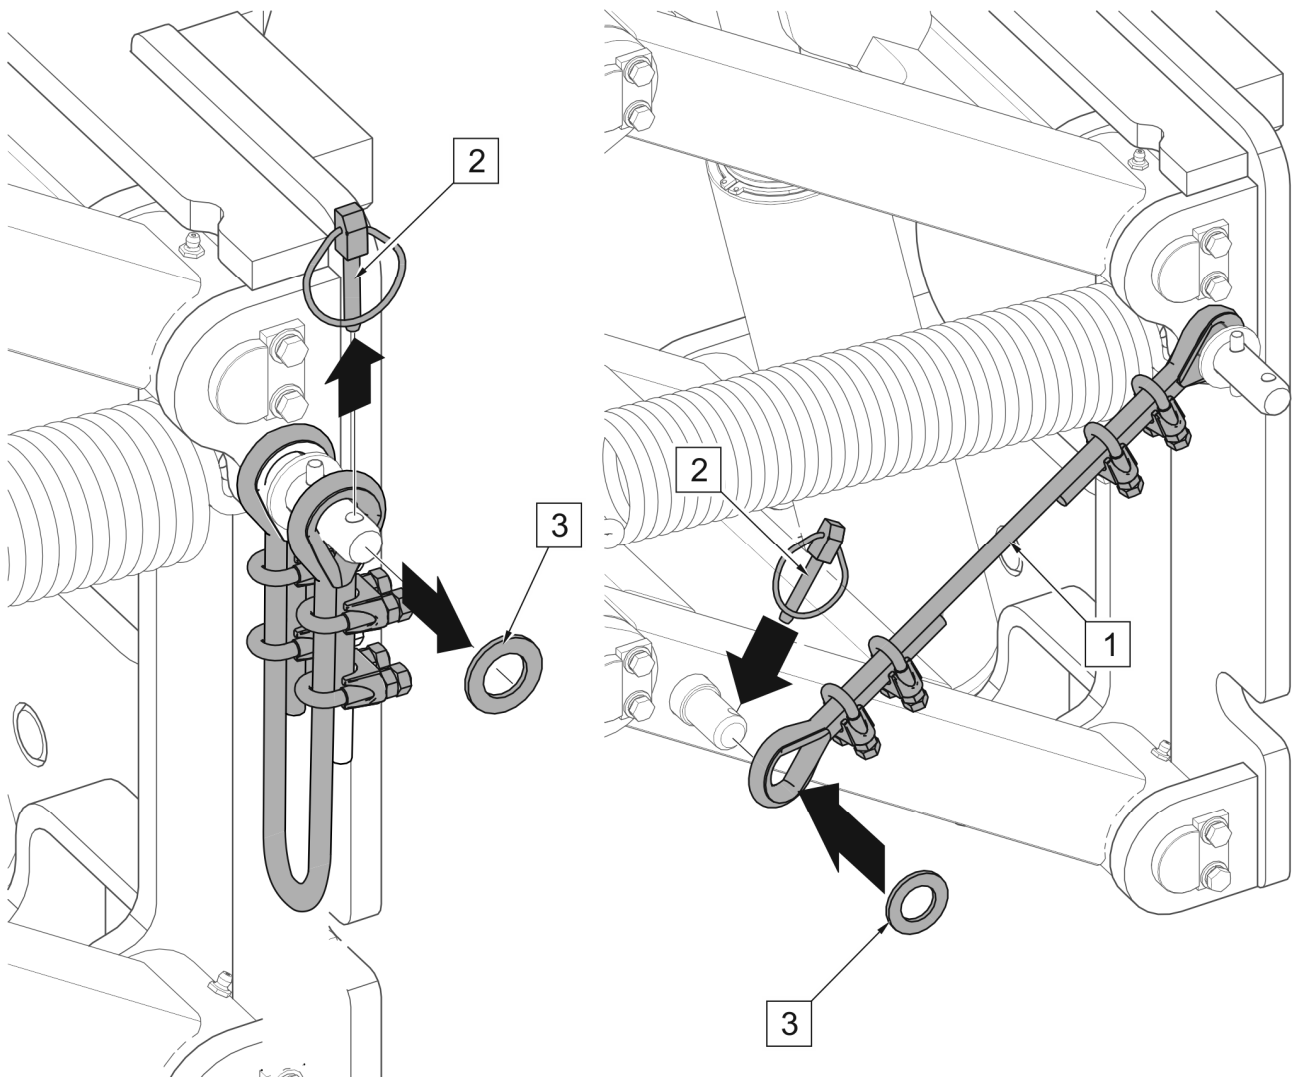

FIG. 4.16 **Installing transport lock**
- When driving with raised snowplough, the mouldboard should be folded and the linkage system should be locked with transport protection (FIG. 4.16).
In order to secure the machine's linkage in transport position and protect it against falling or accidental dropping (FIG. 4.16):